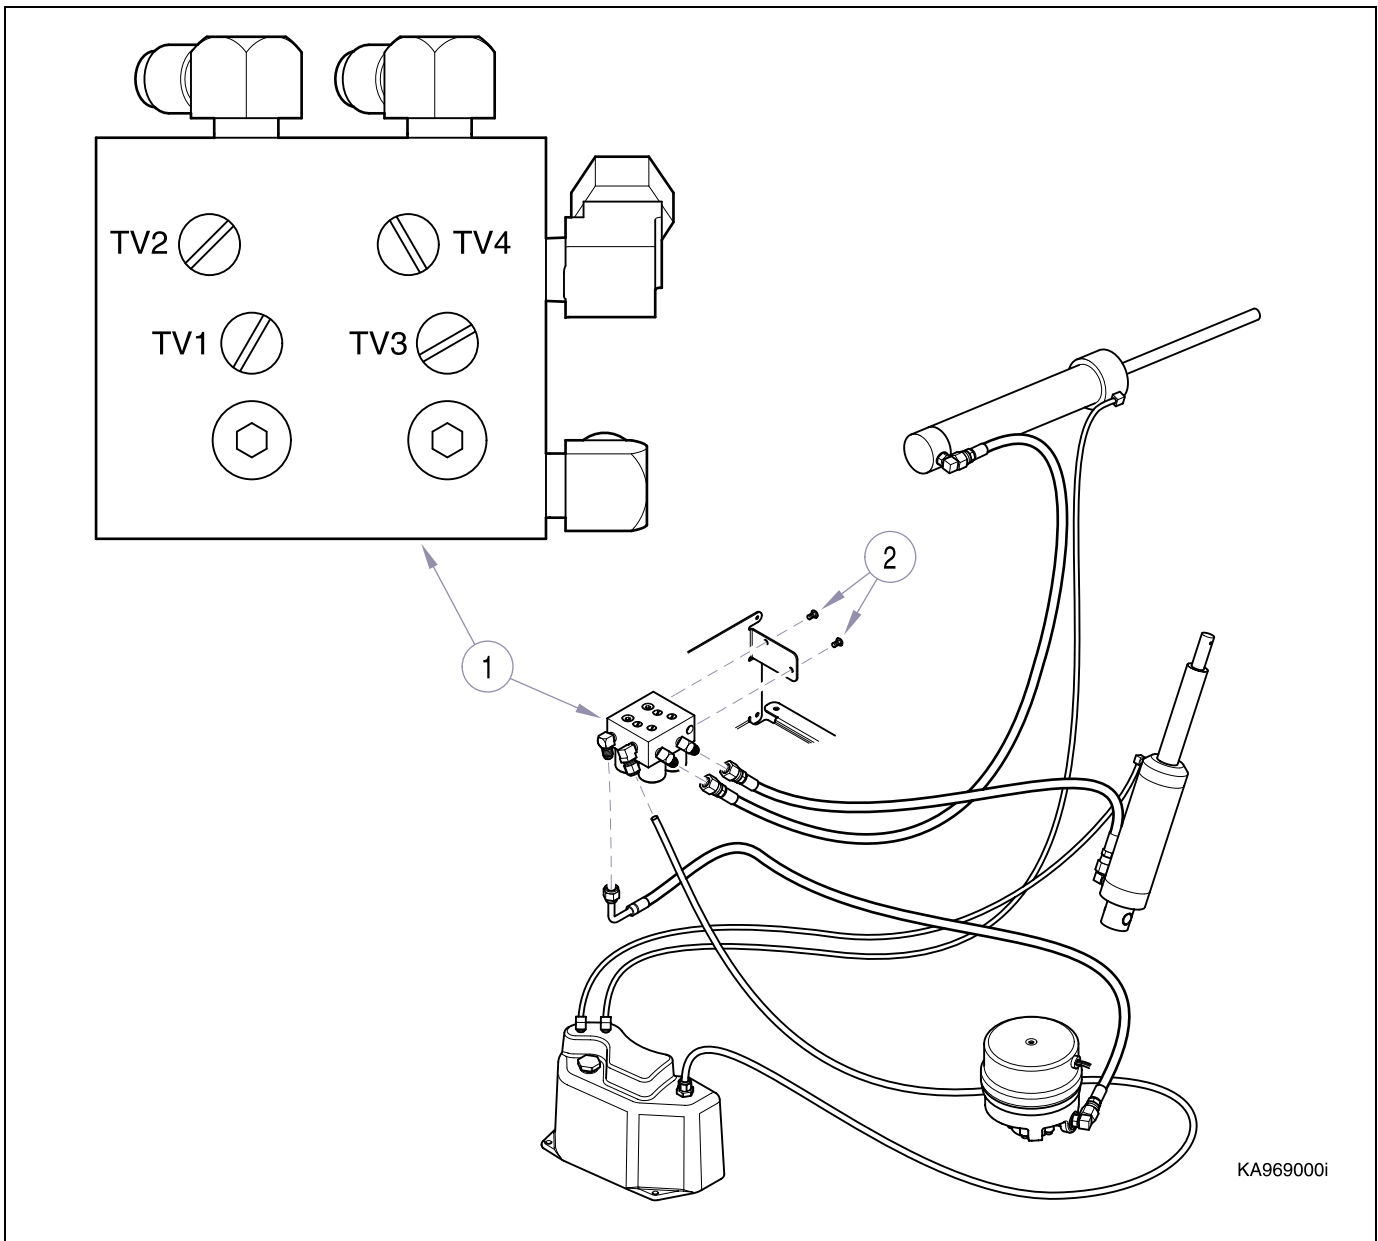

Figure 4-16. Hydraulic Solenoid Valve Assembly.
- (8) Disconnect hydraulic lines from solenoid valve assembly (1, Fig. 4-16).
- (9) Disconnect solenoid electrical leads from J17 and J18 plug connectors on PC board (refer to para 5.1, Schematics).
- (10) Remove solenoid valve assembly (1) from hydraulic chassis (2), two screws.
- (1) Connect hydraulic hoses to the proper ports on the solenoid valve assembly (1, Fig. 4-16).
- (2) Secure solenoid valve assembly (1) to hydraulic chassis (2), two screws.
There are four Throttle Valves on the Solenoid Valve Assembly (1, Fig. 4-16) for adjusting travel time, BASE UP (TV1), BASE DOWN (TV2), BACK UP (TV3), BACK DOWN (TV4)